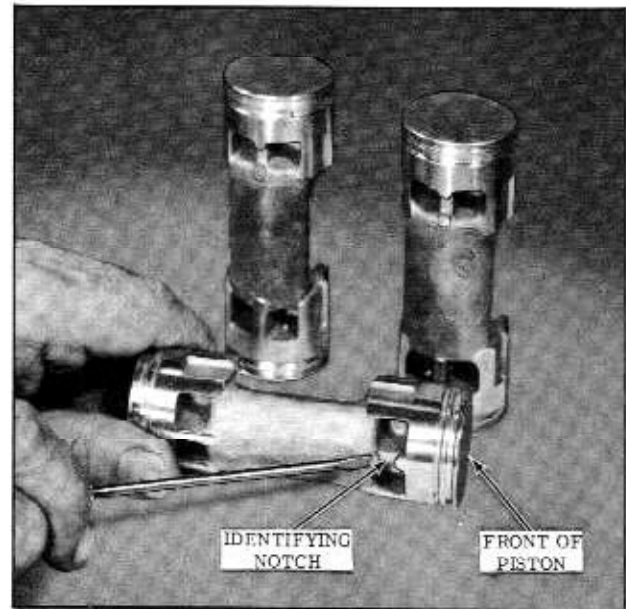

Fig. 14-51 Piston Identification
6. Place a zero shoe over each ball in the front end of the piston. The front end of the piston has an identifying notch in the casting web. (Fig. 14-51)